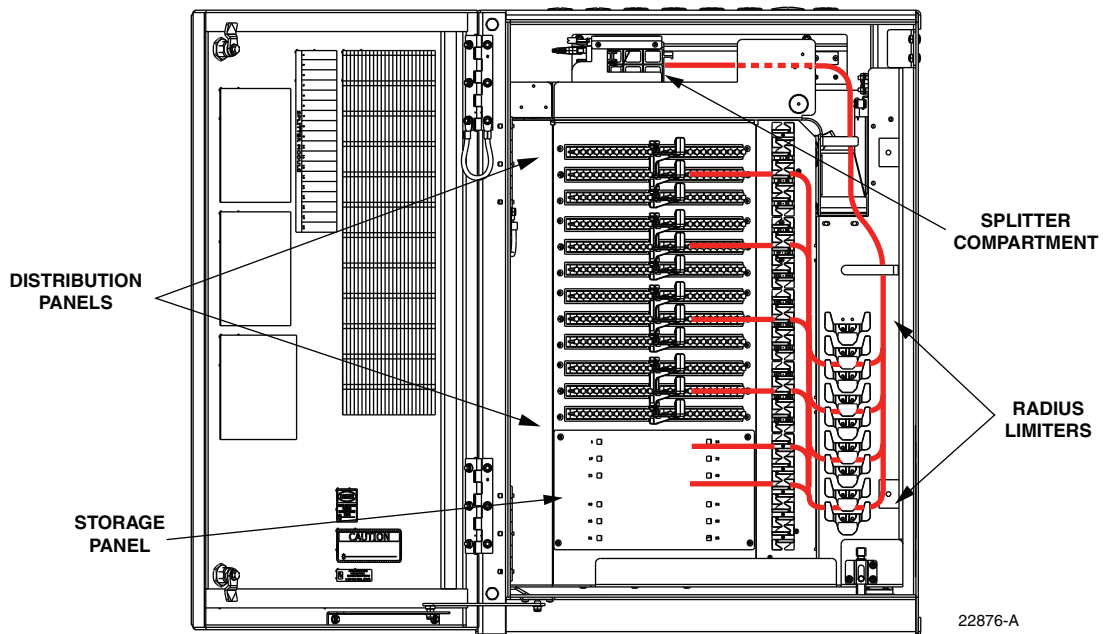

Figure 71. Routing Splitter Output Fibers
3. Use the radius limiters on the right side of the cabinet to store any excess fiber slack. Refer to Figure 71 for the routing guidelines.
6. Use the radius limiters on the right side of the cabinet to store any excess fiber slack. Refer to Figure 71 for the routing guidelines.